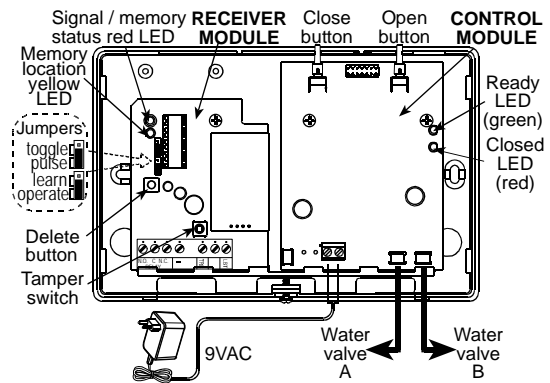

Figure 6 - Power Connection
- A. Set the OPERATE / LEARN jumper (see Fig. 6) to LEARN as shown at the right. The yellow LED (see Fig. 6) will start flashing at a constant rate.
The flood detectors identification, in the receiver module memory, is divided into 10 locations, one per each flood detector ID. Memory locations may be selected in ascending order from 1 to 10, by clicking the receiver module tamper switch (see Fig. 6).
The yellow LED (see figure 6) indicates which memory location is selected. The information is conveyed by flashing sequences as demonstrated in the following chart:
- B. Click the receiver tamper switch (see figure 6) the correct number of times (1 - 10) to select the desired memory location. Each click of the tamper switch advances to the next memory location according to the above table. The SIGNAL / MEMORY STATUS LED (red, see Fig. 6) will show the status of the selected location as follows:
- C. If the memory status is free (as shown in the above table) initiate a transmission from the flood detector you wish to enroll in the selected location, by inserting battery into the flood detector or (if it's battery was already inserted) click the flood detector tamper switch (see figure 6).
Red LED Response (Fig. 6)	Significance
- A. Set the OPERATE/LEARN jumper to LEARN position. The internal yellow LED (see Fig. 6) will start flashing at a constant rate.
- B. Click the receiver tamper switch (see Fig. 6) the correct number of times (up to 10) to select the desired memory location (see Para. 3.3). The red LED (see Fig. 6) will show the status of the selected location as follows:
- C. Click the DELETE pushbutton (see Fig. 6) once. The red LED (see Fig. 6) will respond as follows:
Connect the AC adaptor output (9VAC), that is supplied with the system, to the "PWR" terminals (see figure 6) - disregard the polarity.
Connect the water valve cable to VALVE A or VALVE B connector (see Fig. 6).
1. Press the CLOSE button (see figure 6).
1. Press the OPEN button (see Fig. 6).
2. Press the OPEN button (see Fig. 6), and verify that the water supply is restored.